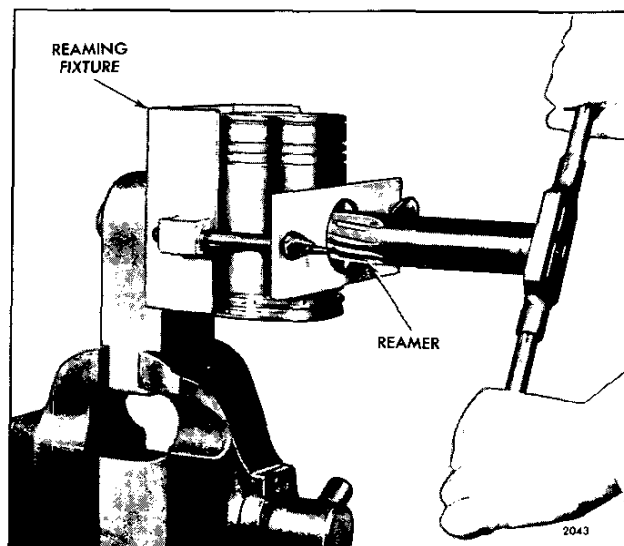

Fig. 7 - Reaming Piston Pin Bushings
- a. Clamp the reaming fixture J 5273 in a vise (Fig. 7). Then, insert the guide bushing J 4970-5 in the fixture and secure it with the set screw.
- d. Ream the bushings (Fig. 7). Turn the reamer in a clockwise direction only, when reaming or withdrawing the reamer. For best results, use only moderate pressure on the reamer.